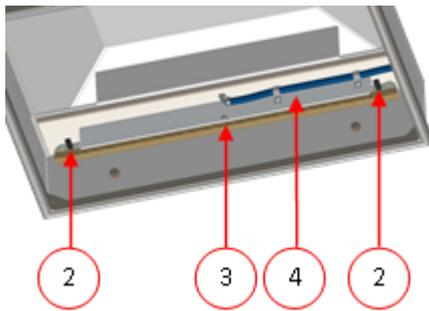

Figure 20: Removing the Sealing Bar (Metal Lid)
See *Figure 20: Removing the Sealing Bar (Metal Lid)* on page 66. Remove the sealing bar from the holders (4) by disconnecting the two electrical connectors (2) and removing the M6 screw (3).